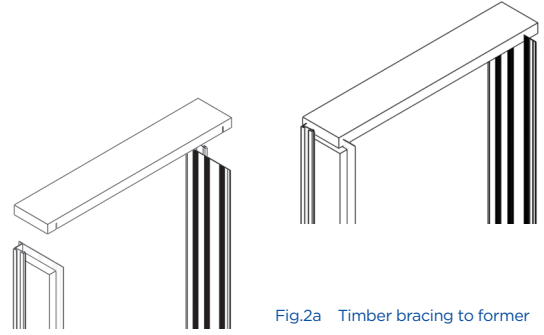
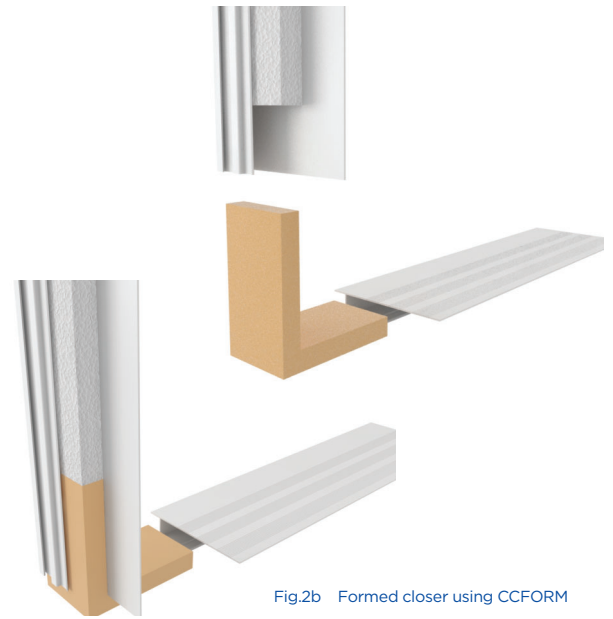

Fig.2a Timber bracing to former
Fig.2b Formed closer using CCFORM
- In first fix application the cavity closer should be nailed to the jamb/sill of the door or window frame and the whole assembly built in as work proceeds. Alternatively the closer can be built in sections using fixing ties as work proceeds or pre built to act as an opening former by using a timber brace (fig.2a) and corner forms (fig.2b)